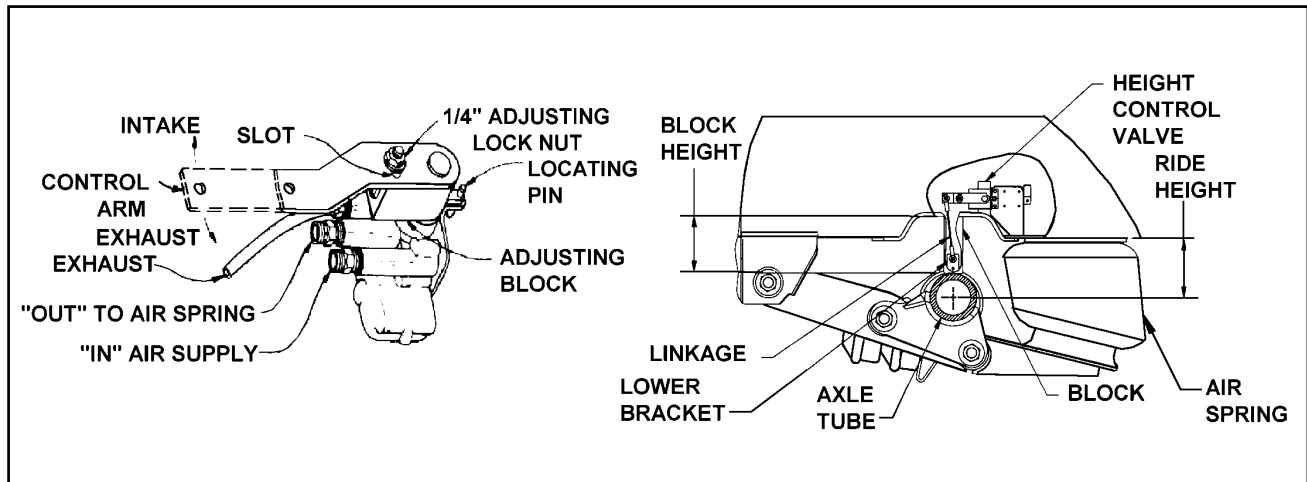

Figure 4-4 Air Ride Height Adjustment
### 4-6.3 Air Ride Height Adjustment. (See Figure 4-4 for parts identification).
- Disconnect linkage at the control arm and raise control arm to the "up" position, raising the trailer until a block can be placed between axle tube and undercarriage frame (See Figure 4-4).
- f. Loosen the 1/4" adjusting lock nut located on the adjusting block, allowing the control arm to move approximately 1 inch. Move the adjusting block until holes align, then insert locating pin. **(See Figure 4-4).**